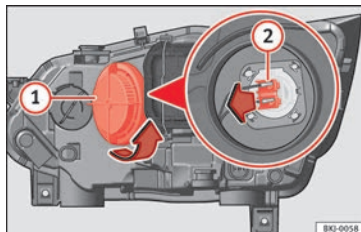

Fig. 109 In the engine compartment: main beam headlight bulb.
- Turn the cover ① anti-clockwise and take it out » Fig. 109.
- Remove the bulb connector ② by pulling it outwards.